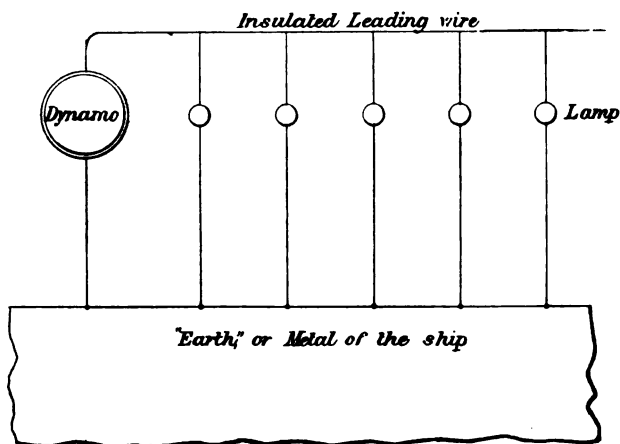

Fig. 3.—Diagram of the Earth or Ship Connection.
*Earth and Ship Return.*—As a matter of fact, the wiring of ships for incandescent lighting is largely carried out on the above plan. There is only one leading wire, the *return* being made through the metal of the ship's shell. But it should be borne in mind that in every case a complete and unmistakable electrical circuit, generally through metallic conductors, must be maintained. The diagram (Fig. 3) will serve to elucidate this. In other words, while our hydraulic analogy may appear conveniently elastic in this respect, there is no such elasticity in the case of the dynamo. Telegraphy is carried on with a single wire across oceans, by means of a good "*earth*" connection at either extremity of the line, but we are not aware that electric lighting has been successfully carried on by similar simple means. To "*earth*" the end of a conductor is to so connect it to some metallic body having a large surface of contact with the earth, or with water, as to form a complete conductive circuit,